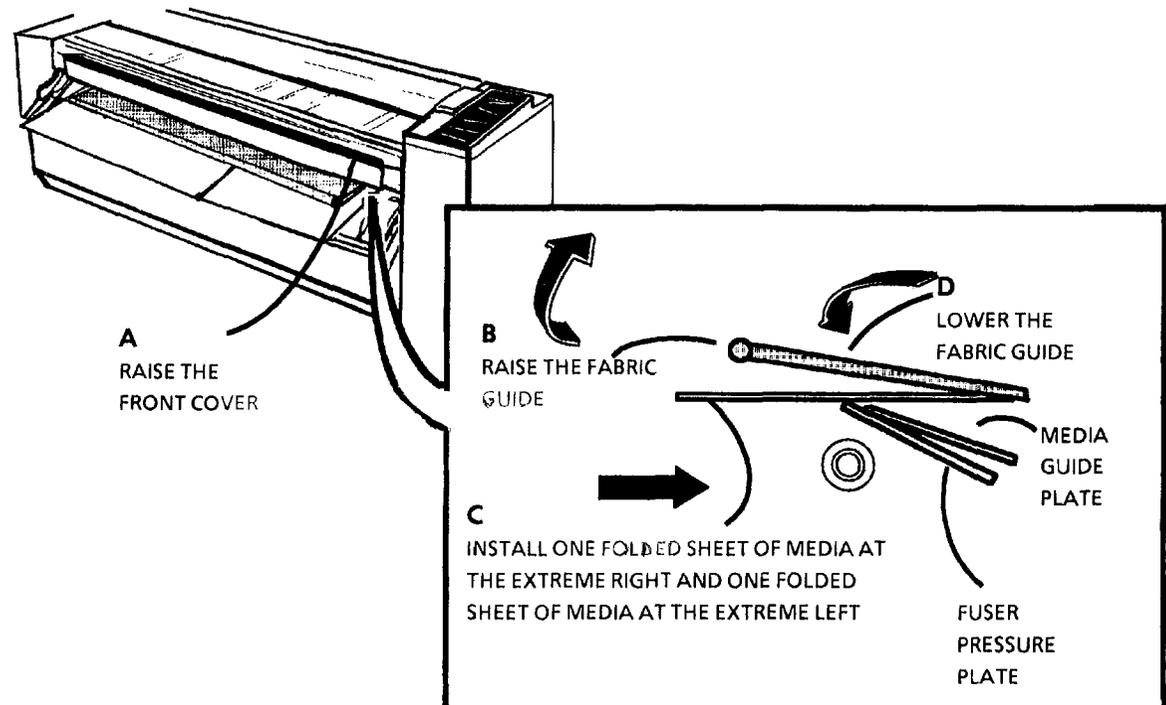

Figure 1. Installing the Media Under the Fabric Guide
3. (Figure 1) : Install the 2 sheets of media under the full length of the fabric guide, with the sheets overlapping in the center.